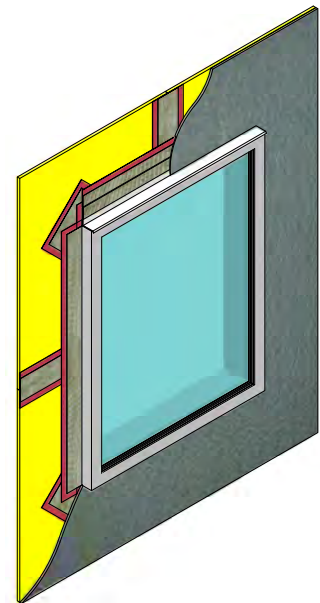

Figure 30
9. Apply ACROSTOP-R per the product bulletin instructions over the substrate. (See Figure 30)